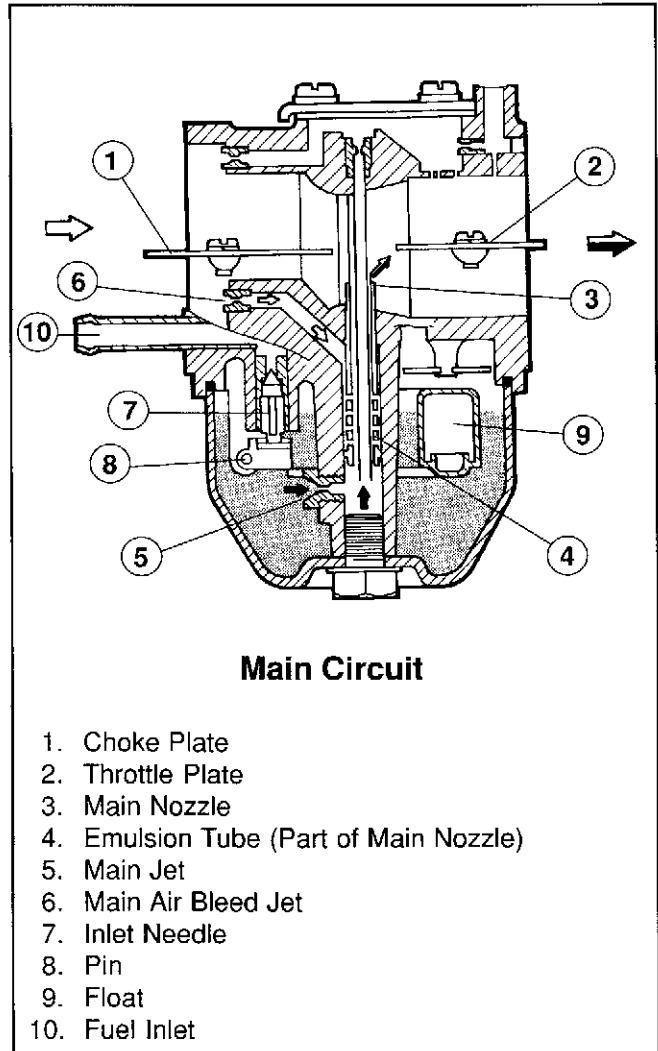

Figure 5-3. Main Circuit.
**Main Circuit (Figure 5-3):** At high loads, the engine operates mostly on the main circuit. As a metered amount of air is drawn through the main air bleed jet, fuel is drawn through the main jet. The air and fuel are mixed in the main nozzle and then enter the main body of air flow, where further mixing of the fuel and air takes place. This mixture is then delivered to the combustion chamber. The carburetor has a fixed main circuit. There is no adjustment feature present.